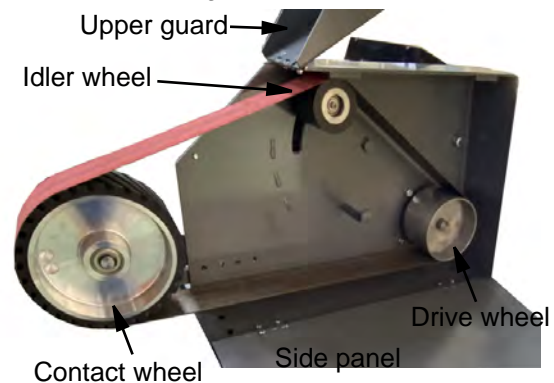

Figure 7-2: belt replacement
- Loosen knob and raise upper guard (see Figure 7-2). Open side panel by turning its knob and lowering panel on its hinges.